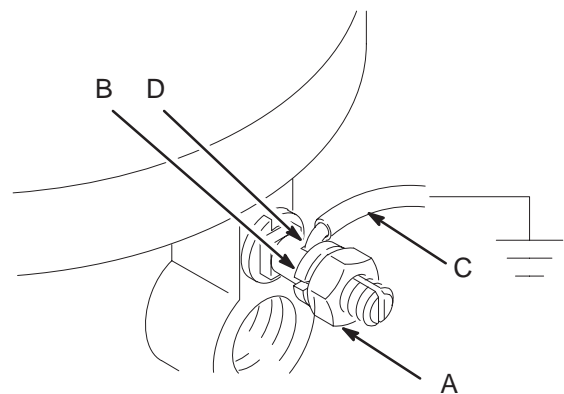

Fig. 1
- **Pump:** Use a ground wire and clamp as shown in Fig. 1. Loosen the grounding lug locknut (A) and washer (B). Insert one end of a 12 ga (1.5 mm²) minimum ground wire (C) into the slot in lug (D) and tighten the locknut securely. Connect the other end of the wire to a true earth ground. Order part number 103538 Grounding Clamp and 208950 Grounding Wire.